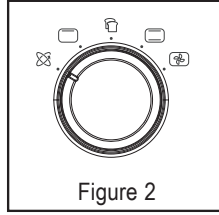

Figure 2
- 3. Function Selector Knob** – Select cooking function by turning knob to desired setting. (See Figure 2)